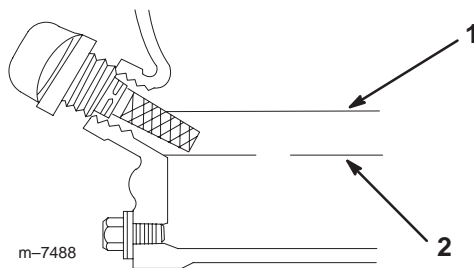

Figure 6
6. Pull the dipstick out and look at the end. There should be oil on the dipstick (Fig. 6).